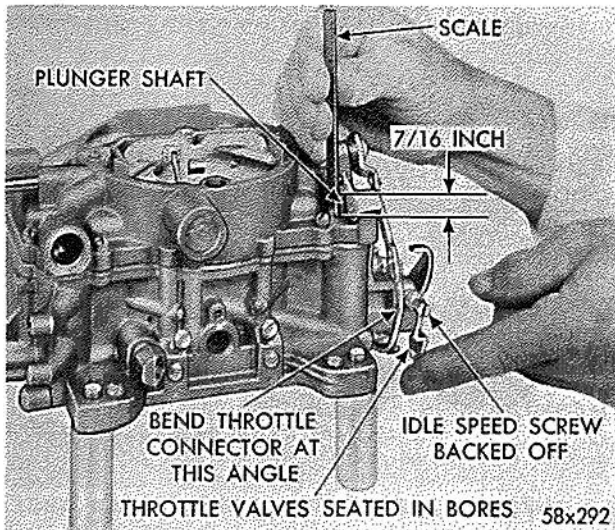

Fig. 9 Checking Accelerator Pump Travel
(1) Move the choke valve to wide open position, to release the fast idle cam. Back off the idle speed adjusting screw (curb idle) until the throttle valves are seated in the bores.
(2) Measure the distance from the top of the plunger shaft, using a "T" scale, as shown in Figure 9. This distance should be 7/16 inch on AFB 2903S.
(3) If an adjustment is necessary, bend the throttle connector rod at the lower angle, using Tool T-109-213, until correct trave has been obtained.